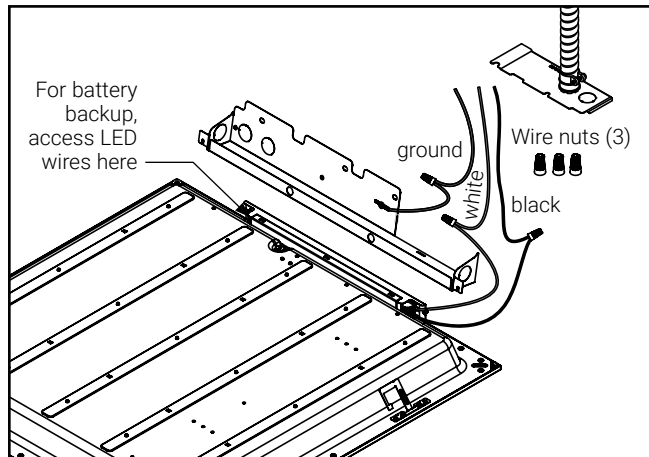

Figure 5.
- Using the open knockout bring in the supply line. Using the three provided wire nuts to attach the ground wire to the ground supply wire, the black (line) wire to the black supply wire, and the white (neutral) wire to the white supply wire (Fig. 5).
**NOTE:** This fixture is compatible with battery backup systems including the Surelites EBPLED7W and EBPLED14W. If using a battery backup system remove driver cover plate to access LED load wires and follow battery backup wiring instructions (Fig. 5). Ensure driver cover plate is reinstalled after wiring.